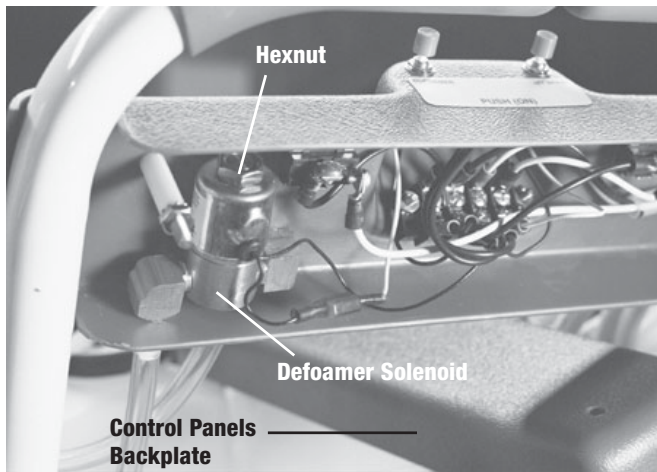

Figure 21
2. Remove backplate of control panel and locate defoamer solenoid (fig. 21).
3. Unscrew hex-nut from top of solenoid (fig. 21).